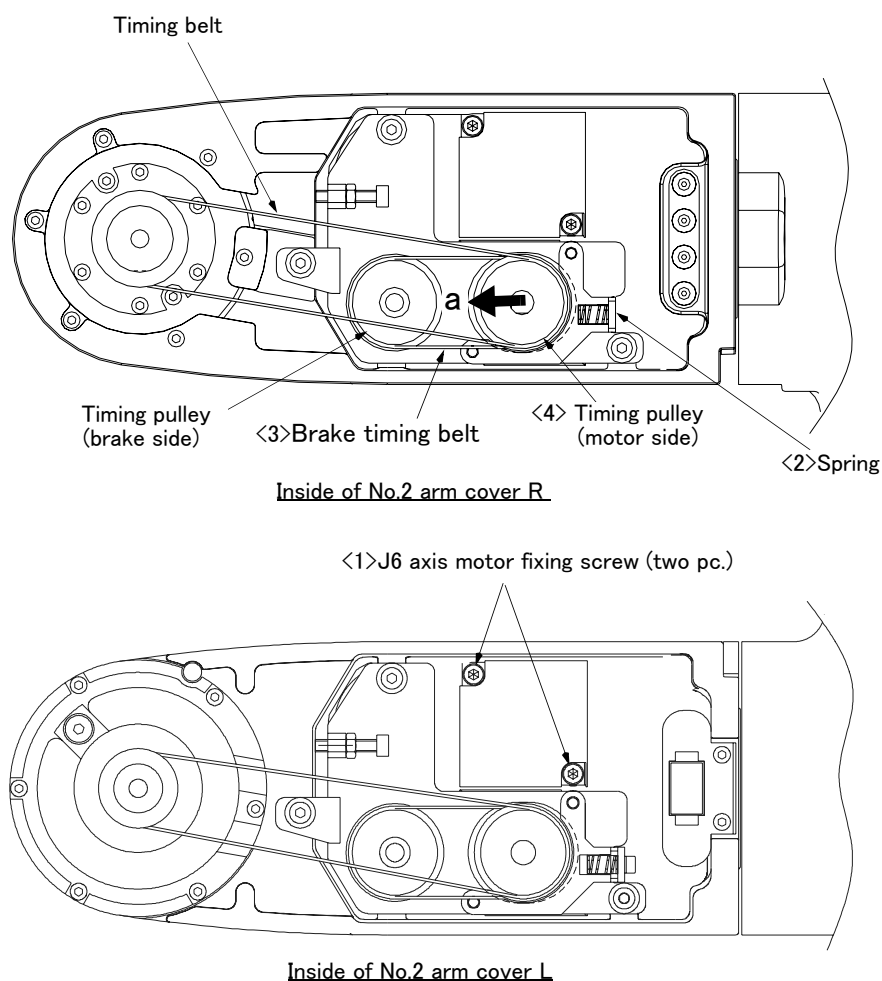

Fig.5-12 : Inspection, maintenance and replacement of J6 axis brake timing belt
The reference figure at inspection, adjustment, and replacement of the brake timing belt is shown in Fig. 5-12. After adjustment of J6 axis brake timing belt, the adjustment of the timing belt which rotates the J6 axis is also needed. Moreover, it is necessary to remove J6 axis timing belt for the replacement of brake timing belt.
- 3) Loosen motor fixing screw (1). (two pc.) (Do not loosen too much.)
- 4) Move motor side timing belt pulley (4) in the direction of the arrow "a" of Fig. 5-12 , and remove the brake timing belt..
(8) Timing belt tension